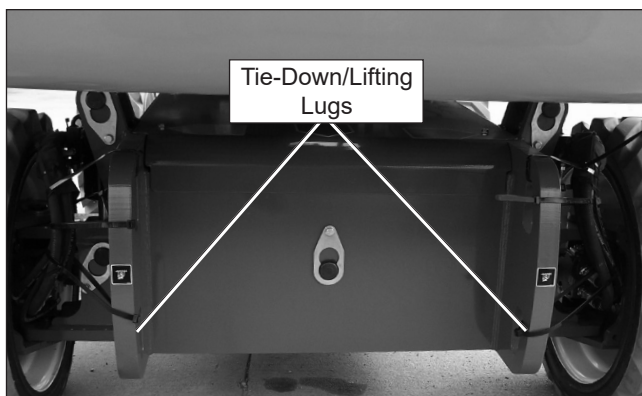
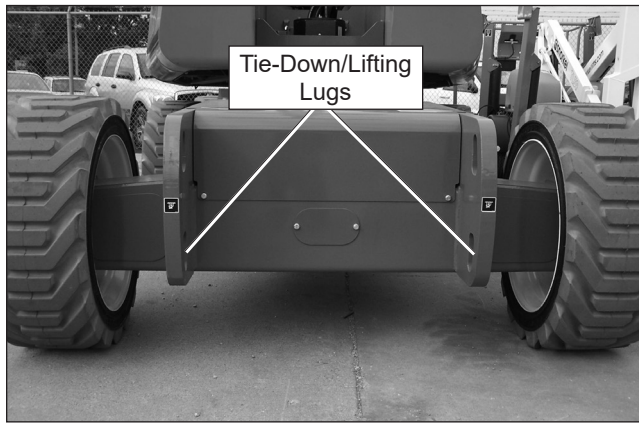

Figure 9.2 – Front Tie-Down/Lifting Lugs
Figure 9.4 – Rear Tie-Down/Lifting Lugs
5. Attach the winch to the tie-down lugs (refer to Figure 9.2) on the front of the chassis by looping the chain or cable through the hole in the chassis and back out in between the chassis and the front axle.
2. Inspect the front lifting lugs (refer to Figure 9.2) and the rear lifting lugs (refer to Figure 9.4) to make sure they are free of cracks and are in good condition. Have any damage repaired by a qualified service technician before attempting to hoist the machine.